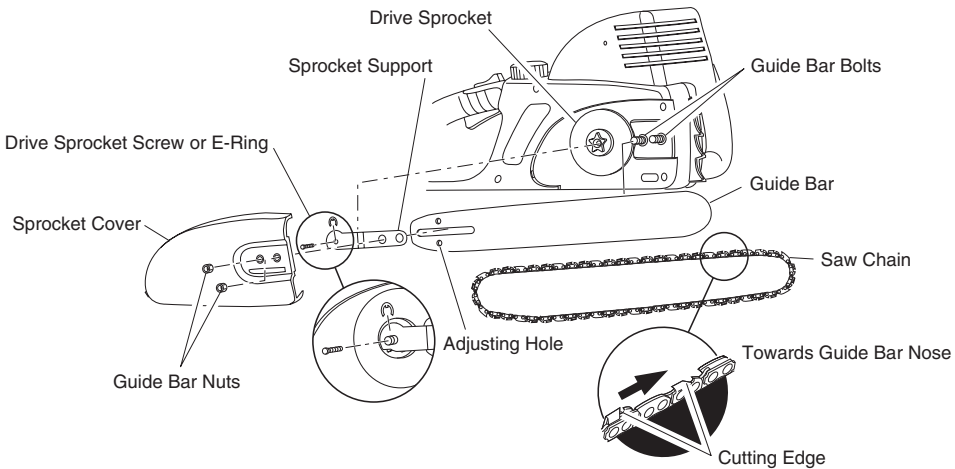
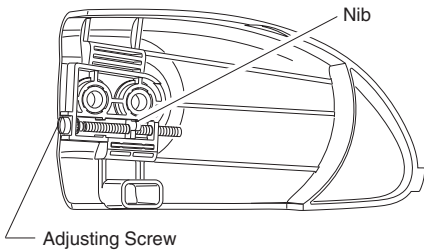

Figure 4 - Assembling Guide Bar and Chain
Figure 5 - Turn Adjusting Screw on Model 107624-01, -02
3. Loosen and remove drive sprocket screw or remove E-ring from shaft (see Figure 4). Remove sprocket support.
6. Place chain around drive sprocket, along top groove of guide bar, and around guide bar nose. *Note:* Make sure cutting edges of chain are facing in right direction. Position chain so cutting edges on top of guide bar face guide bar nose (see Figure 4, and indicator on side cover of saw).
9. Turning thumbscrew (Model 107625-01, -02, 111174-01) or tensioner screw (Model 107624-01, -02), adjust position of nib until it is aligned and inserted into the round adjusting hole on guide bar (see Figure 4 and Figures 5 and 6, page 8). Turning thumbscrew or screw counterclockwise will move tensioner bar to rear of guide bar. Turning thumbscrew or screw clockwise will move tensioner bar to front of guide bar.